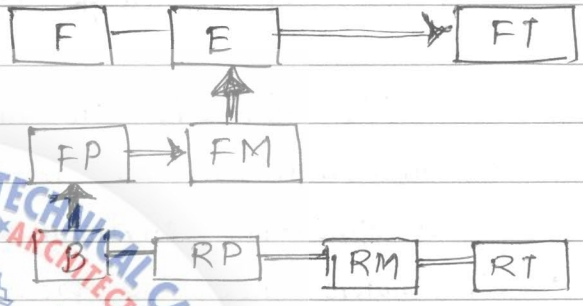

fig 5d Mode 4, light load
- Mode 4: During driving at light load (fig 5d) first EM delivers the required traction power to the front wheel. The second EM and the ICE are in off state.